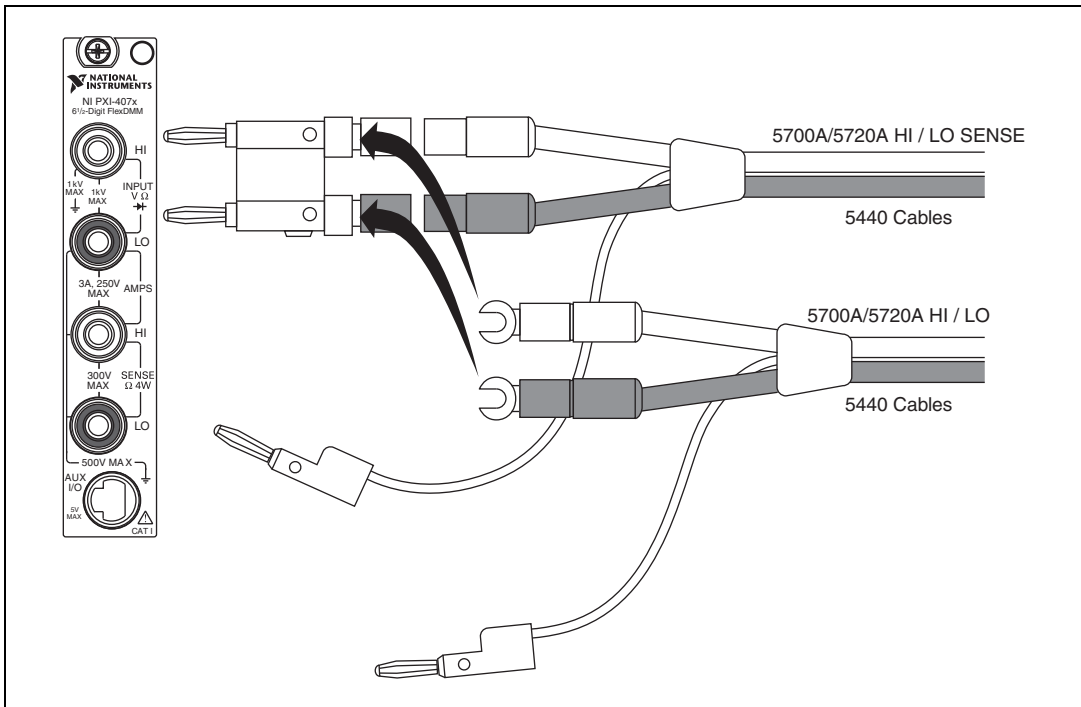

Figure 3. Cable Connections for 2-Wire Resistance
36. Connect the NI 4070/4072 and the Fluke 5700A/5720A calibrator using two sets of Fluke 5440 cables, a double banana plug, and two insulated, low EMF spade lugs, as shown in Figure 3. Table 9 lists the cable connections.